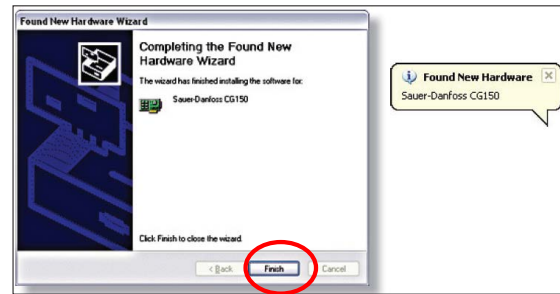

Figure 22. CAN Driver Installation Complete
5. Click "Finish" on the next screen (Figure 22) to complete installation.